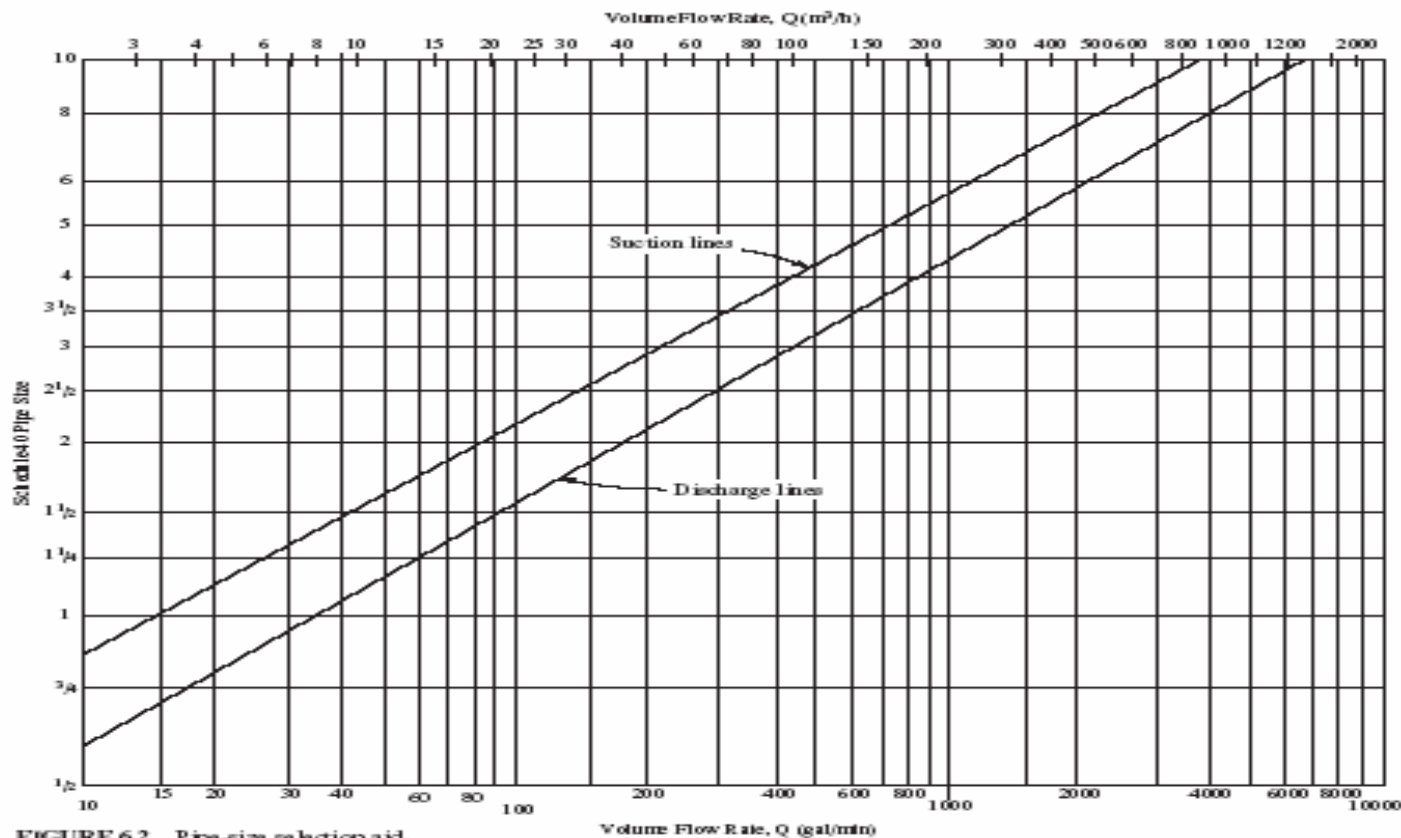

FIGURE 6.2 Pipe-size selection aid.
- The resulting flow velocities from the recommended pipe sizes in Fig. 6.2 are generally lower for the smaller pipes and higher for the larger pipes, as shown for the following data.
Entering Fig. 6.2 at $Q = 400$ gal/min, we select the following: